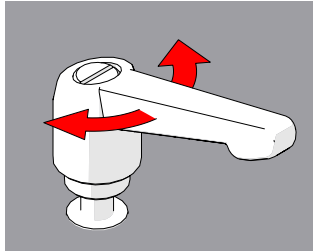

Fig. 58 - Rotate handle
2. Continue to pull while rotating the lever in the appropriate direction (*Fig. 58*).